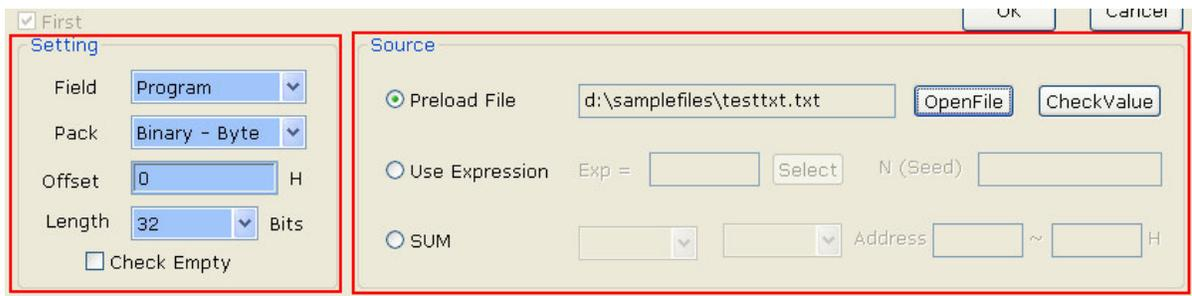

Fig. 4-10
The following introduces the definitions and usages for these settings. As shown in Fig. 4-10, each setting group is divided into a left and right part. The left part is used to set the form, length and address of the ROM data section and the right part is to set the data source.
(B) Data Source - the right part in Fig. 4-10